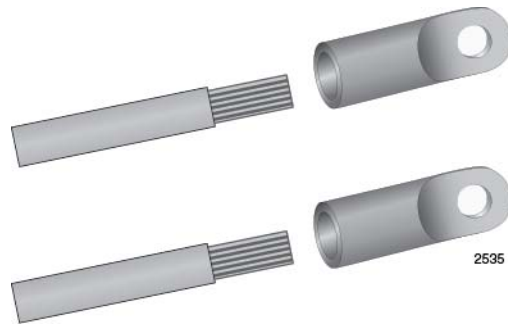

Figure 106. Attaching the Power Wires to the Straight Terminal Lugs
2. Insert the power wires into the terminals included with the power supply and use a crimping tool to secure the wires to the terminals. See Figure 106.